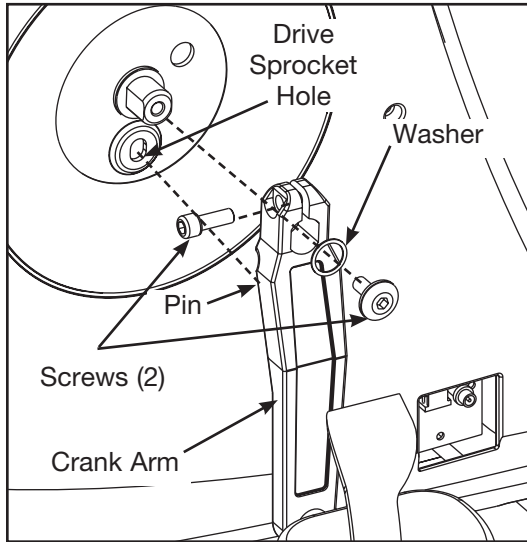

Figure 8
- A. Using a 6 mm Allen wrench, remove the two screws and washer securing each of the crank arms. See Figure 8.